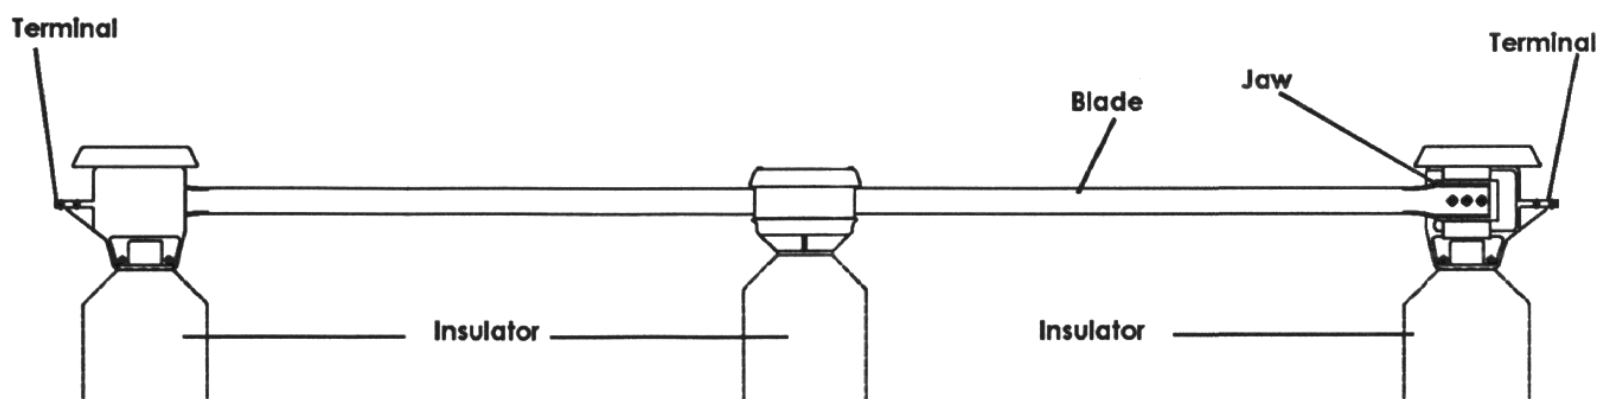

Figure 2
The blade (Fig. 2) of the switch opens and closes horizontally. The contact at the end of the blade enters the jaw at a slight angle and then rotates vertically to firmly press against the jaw contact fingers. In addition to ensuring definite contact pressure, this dual motion also facilitates ice-breaking on opening.
3. Assemble the live parts (blade and jaw assemblies, etc.) (Fig. 2 on page 1) to the switch as follows:
- b. Fasten the blade to the support insulators as shown in Fig. 2.